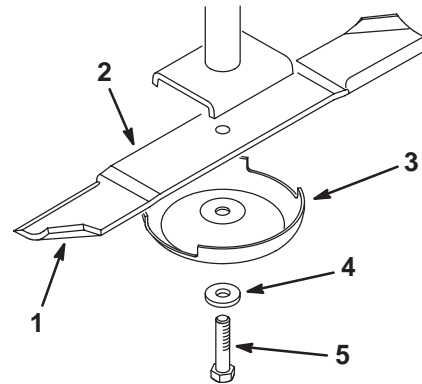

Figure 15
Hold the blade end using a rag or thickly-padded glove. Remove the blade bolt, lock washer, anti-scalp cup and blade from the spindle shaft (Fig. 15).
blade is not balanced, file some metal off the end of the sail area only (Fig. 15). Repeat this procedure until the blade is balanced.
1. Install the blade onto the spindle shaft (Fig. 15).
2. Install the anti-scalp cup, lock washer and blade bolt (Fig. 15). Torque the blade bolt to 85–110 ft-lb (115–149 N•m).